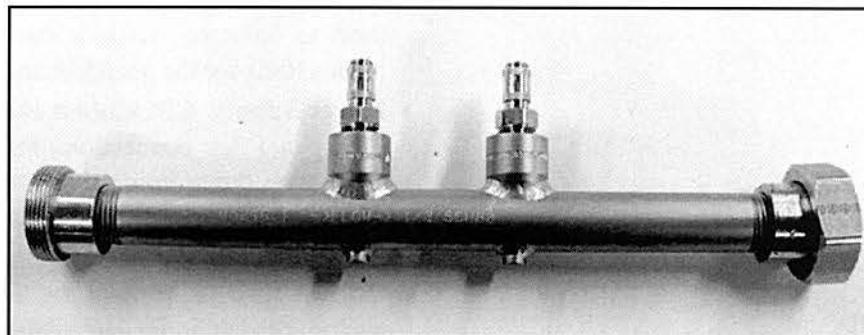

Figure 25. Pitot Tube
- **Pitot Tube** - The pitot tube, as shown in figure 25, is one type of differential pressure flow sensor. It is used with the optional smart transmitter.